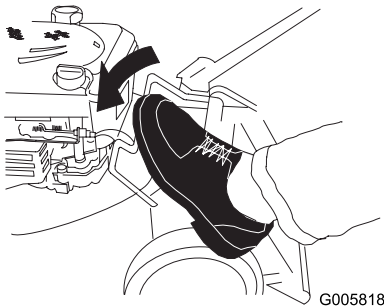

Figure 22
2. Step on the handle release bar (Figure 22).